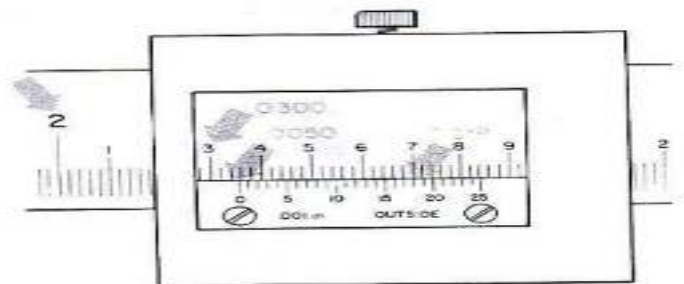

Figure 2.10 Vernier Caliper
- Rule consists of the slide that fits over the rule. A distance on the slide of six-hundred thousandths (0.600) of an inch is graduated into 25 equal parts so that each division measures twenty four thousandths (0.024) of an in. Fig. 2.10. The graduations on the rule itself are twenty-five thousandth (0.025) of an inch, so in a distance of 600 there are 24 divisions on the rule. The difference in the size of the division on the rule and those on the vernier scale is one thousandth (.001) of an inch.